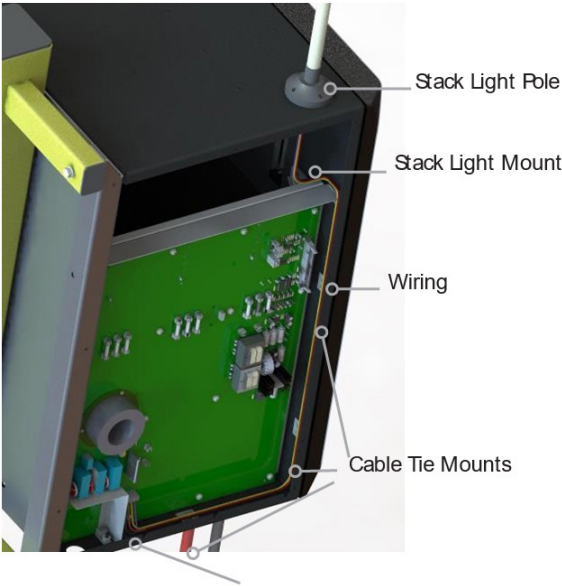

Figure 11 – Stack Light Mounting and Wiring
3. Use the crimp terminals (P/N 05358) to splice the RED, YELLOW, VIOLET and BLACK wires to the stack light lead wires, as shown in Figure 11.